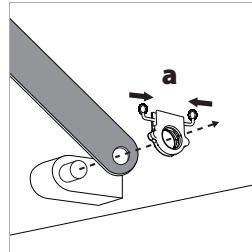

Fig. 38a
- RAGE3-S300 model only - remove the clip that holds the blade guard release mechanism in place by pinching the metal spring ends together. (**Fig. 38a**).